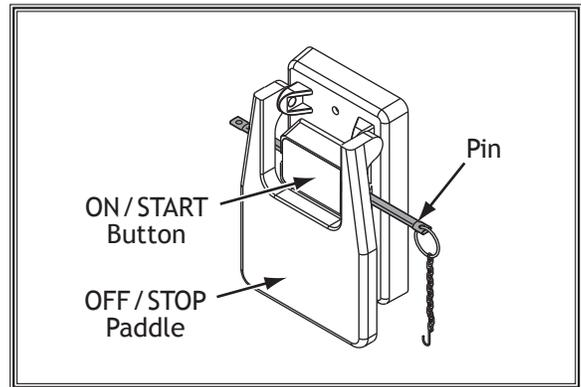

Figure 39. Example of switch disabling pin inserted into START button.
4. Insert switch disabling pin through green START button, as shown in **Figure 39**.